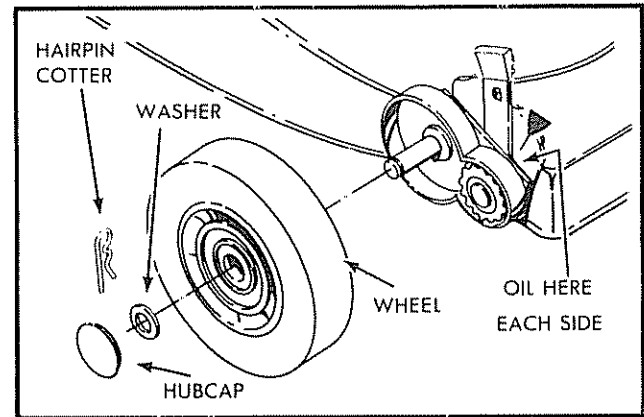

FIG. 23
**FRONT WHEEL ADJUSTERS:** Put a few drops of the same oil as used in the engine on the front wheel adjusters once or twice each year (See Fig. 23).
2. If necessary to clean the drive wheels (See Fig. 23) check both front wheels.